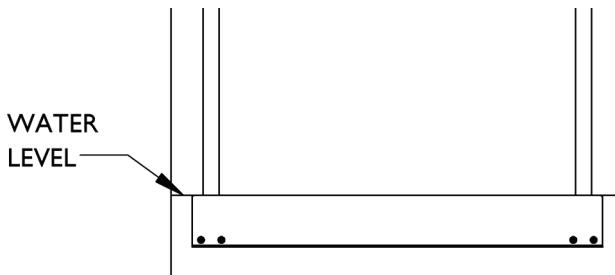

Figure 7 | Backstroke Ledge Alignment
3. Set the backstroke ledge in the pool, looping the strap around and over the spool cap. Ensure adjustment is initially set at 0 as shown in Figure 7. Verify the top of the ledge is at water level within 1/2" (13mm).